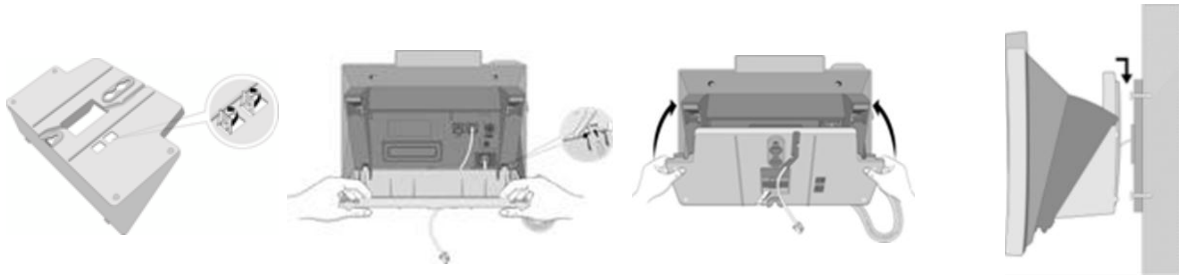

Figure 4.5-6 LIP-7000 Wall Mount Installation
The LIP-24D/DH or LIP 7000 Phones can be mounted on the wall using the appropriate Wall Mount Kit. The Wall Mount Kit is installed as described below and shown in Figure 4.5-6.
Insert the two (2) anchors into the holes and insert and tighten the 2 screws leaving about 6 mm (¼-inch) exposed. Refer to Figure 4.5-6.
Insert the Wall Mount handset hook to prevent the handset from slipping when wall mounted. For the LIP-7000 series, the Handset hook is molded as part of the Wall Mount bracket as shown in Figure 4.5-6.